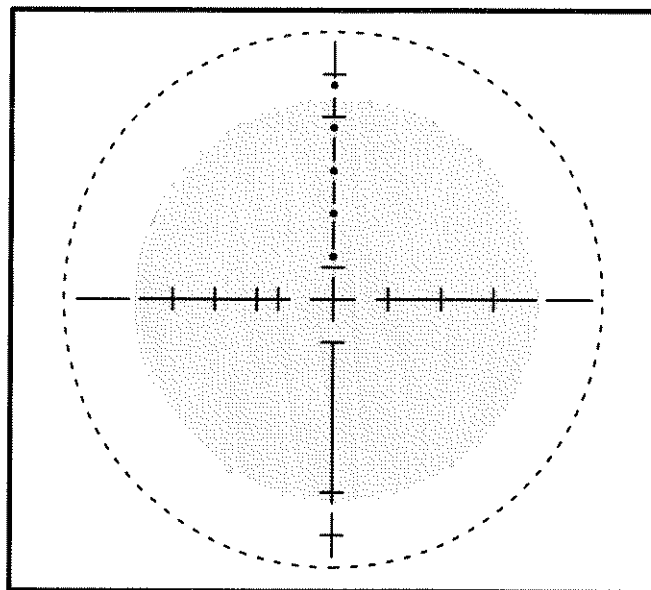

Figure 5-5: Perimeter of the sine wave circle just touches -3 dB point gaps
- e. Decrease the Sine wave Generator frequency until the perimeter of the circle touches the -3 dB (70%) point gaps on the vertical graticule axis. See Figure 5-5.
- m. Decrease the Sine wave Generator frequency until the perimeter of the circle touches the -3 dB (70%) point gaps on the vertical graticule axis. See Figure 5-5.